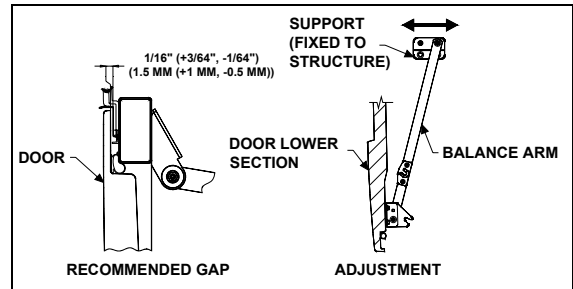

FIGURE 52: BAGGAGE COMPARTMENT DOOR 18071
- Recheck gap mentioned in step 6. If gap has changed, correct by adjusting arm support fixed to structure. Loosen the bolt supporting the balance arm on door lower section and close the door, gap adjustment will automatically result. Tighten the bolt from inside the compartment (Fig. 52).